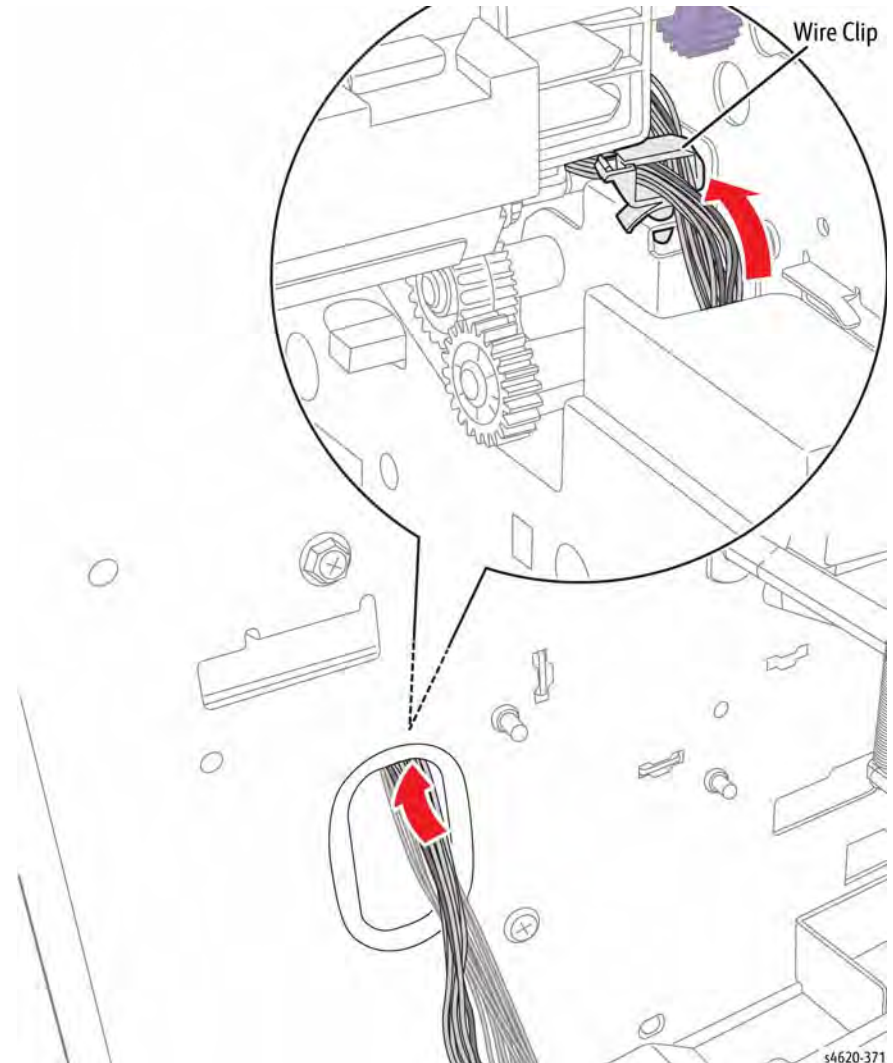

Figure 7 Release the Tray 2 Feeder harness
- 26. Release the feeder harness from the clamp and feed the harness into the Tray 2 cavity, Figure 7.